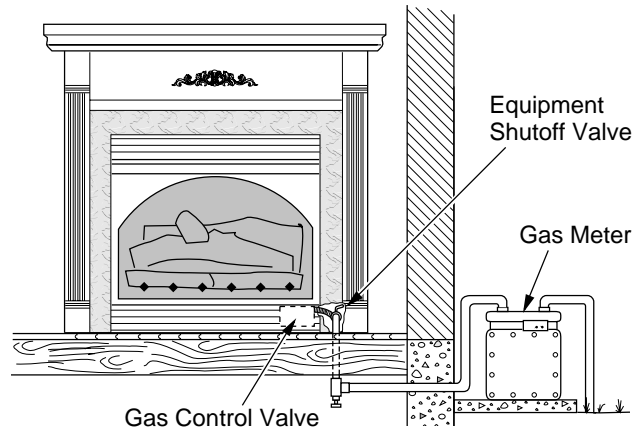

Figure 22 - Checking Gas Joints (Natural Gas Only)
3. Check all joints from gas meter for natural or propane/LP supply to equipment shutoff valve (see Figure 22 or 23). Apply noncorrosive leak detection fluid to all joints. Bubbles forming show a leak.
4. Check all joints from equipment shutoff valve to gas control valve (see Figure 22 or 23). Apply noncorrosive leak detection fluid to all joints. Bubbles forming show a leak.